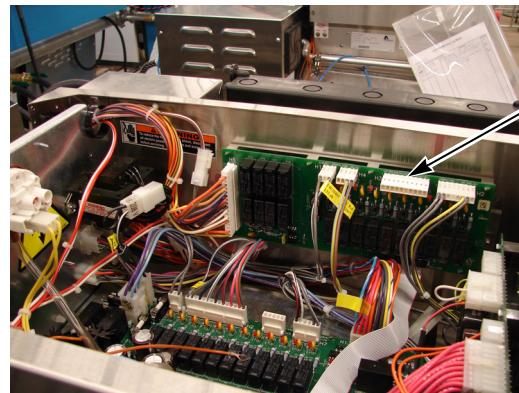

Figure 13
11. When the door lock solenoid is energized, make sure LED 3 (labeled DR) on output board AP3 is on. If the LED is not on, refer to the UniLinc Troubleshooting manual for detailed troubleshooting information. Refer to *Figure 13*.